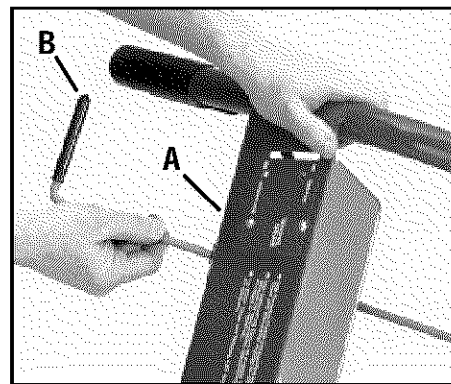

Figure 2-2: Remove Reverse Clutch Control.
1. Remove the Reverse Clutch Control (B, Figure 2-2) from the handlebars (A). Remove any rubber bands from the handlebars.